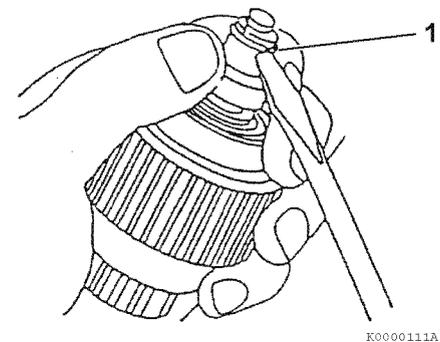

Figure 11-10
- Using a flat-blade screwdriver, remove the retaining ring (1, Figure 11-10) from the shaft of the pinion.